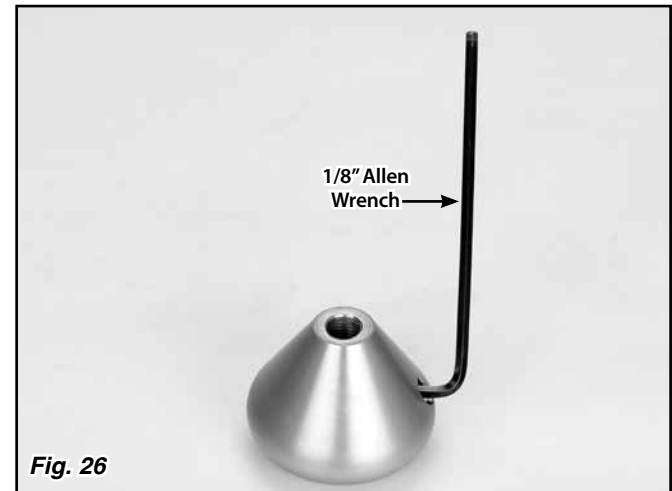

Fig. 26
Step 12: Turn the knob upside down. Use a 1/8" Allen wrench to loosen the set screw in the shifter knob just enough for the release button to slide out of the shifter knob. The release button will usually not just fall out. You will likely need to push the release button out with a screwdriver or the end of the Allen wrench. Fig. 26